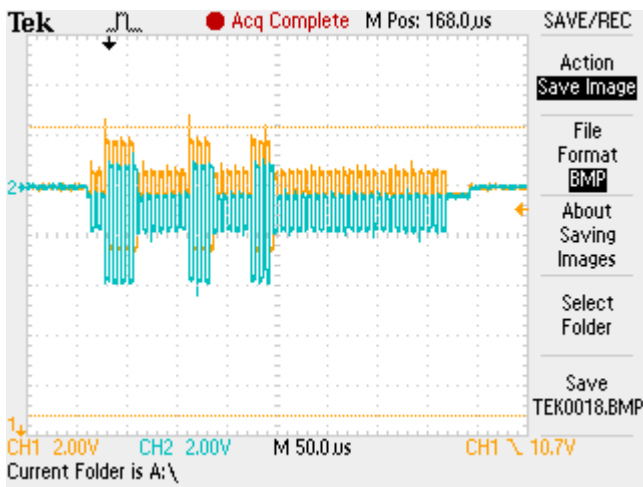

FIGURE 10. CUSTOMER DHI/DLO TRACES
So, that looks good. Figure 10 is the scope waveform for the master/bottom device's DHI2 and DLO2 lines, which actually look correct now while the daisy chain interface isn't connected. DLO2 is blue and DHI2 is orange.
**A:** The waveform in Figure 10 looks almost correct for daisy chain communications, however, it is still not what you want to see. When the boards properly connect, you should see that the waveforms are more symmetrical vertically; and before and after the signals there should be an offset between the two traces (while here they appear to be the same voltage).